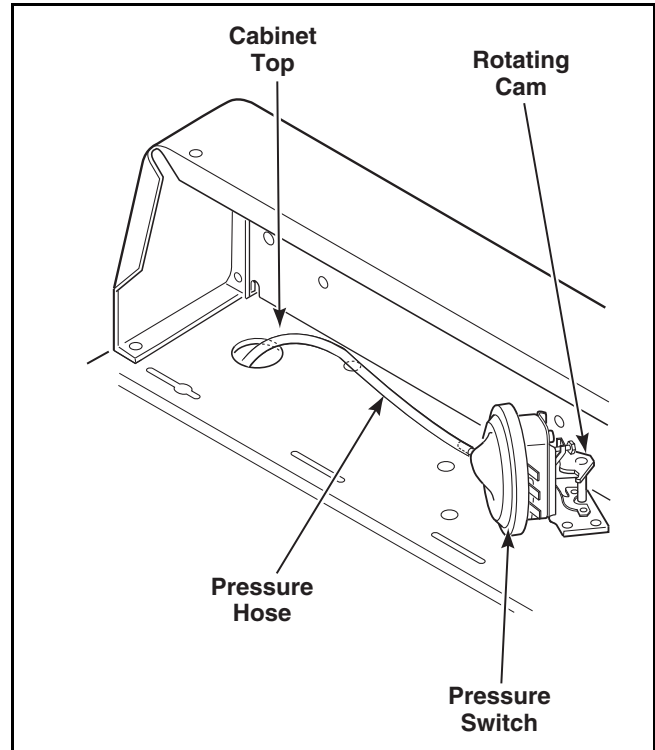

Figure 11
Refer to *Figure 11*.
- c. Rotate the cam on the pressure switch **clockwise to lower** the water fill height, or **counterclockwise to raise** the height. Refer to *Figure 11*.